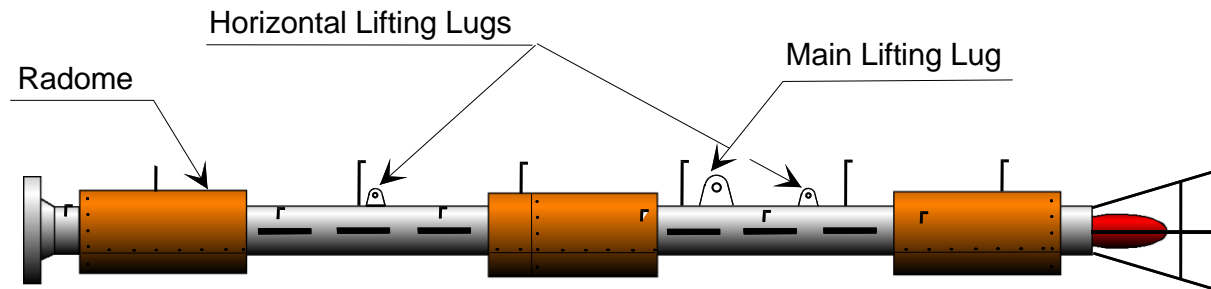

Figure 3 Antenna Lifting Lug
As shown on Figure 3, each antenna has lifting lugs for handling and installation of the antenna. Dielectric antennas typically have one main lug used for lifting the antenna to the tower top and two horizontal handling lugs. Care must be exercised when removing the antenna from the trailer to avoid damaging any parts such as heaters, clamps, beacon cable, vertical dipoles, radomes, trim strips or slot covers.
- Attach the hoisting line to the main lifting lug on the antenna only. The main lifting lug is shown in Figure 3 and is clearly labeled on the pole.